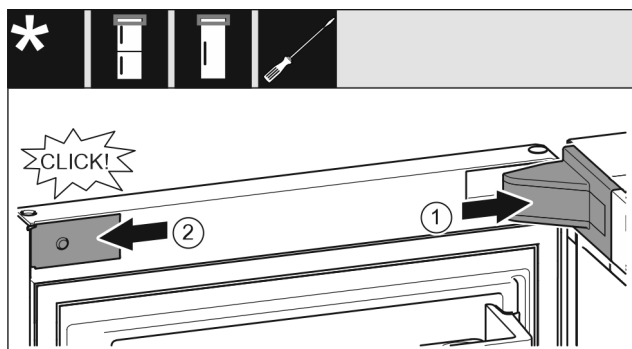

Fig. 24
- ▶ Put the swap bearing block cover Fig. 24 (1) on and engage, push apart carefully if required.
- ▶ Place the trim Fig. 24 (2) on the side and engage.